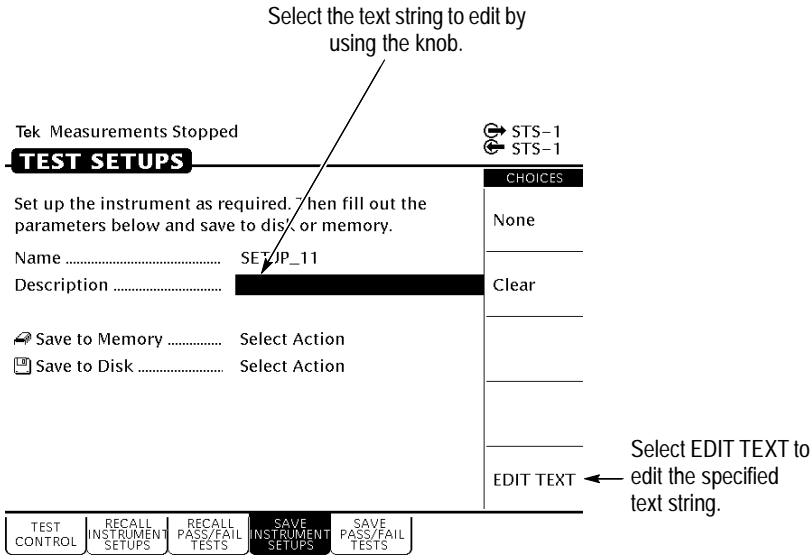

Figure 2–18: Selecting a Text String for Editing
1. Select the text string by turning the knob until the desired text string is highlighted (see Figure 2–18).
When in edit mode, the choices along the right side of the display change (see Figure 2–19). In edit mode, the status line at the top of the display is replaced with a line that displays the characters available for placing into the text string. (Some characters available for message text are not available for file names.)